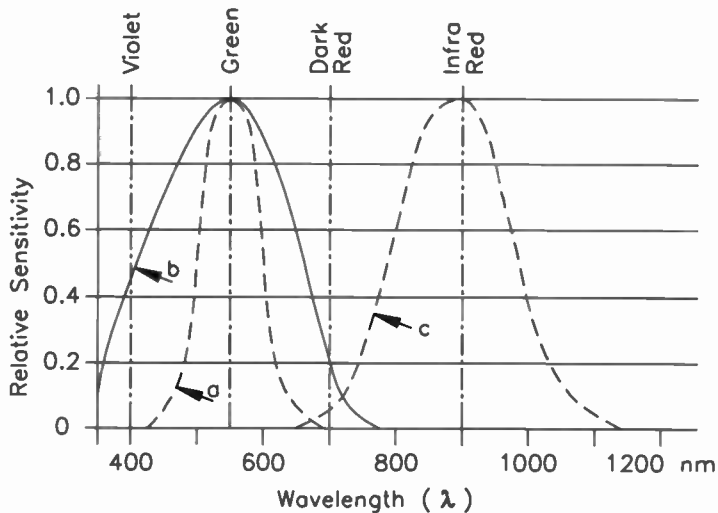

Figure 13. Typical spectral response curves of (a) the human eye and (b) general-purpose and (c) IR photodiodes.
Photodiodes can be designed to respond to either visible light or to IR light. The human eye has the type of spectral response curve shown in curve 'a' in Figure 13. It has a maximum sensitivity to the colour green, which has a wavelength of about 550nm, but has a low sensitivity to violet (400nm) at one end of the spectrum and to dark red (700nm) at the other. General-purpose visible-light photodiodes have typical spectral response characteristics like those shown in curve 'b' in Figure 13, and infra-red (IR) types have the type of response shown in curve 'c'.